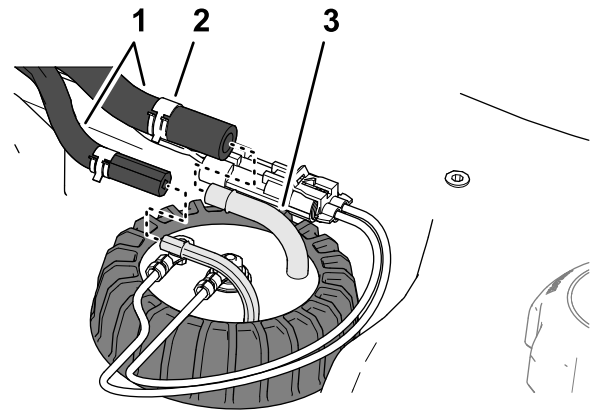

**Figure 88**
3. Remove the 2-socket connector of the fuel-sender harness from the 2-pin connector of the machine wire harness (Figure 88).